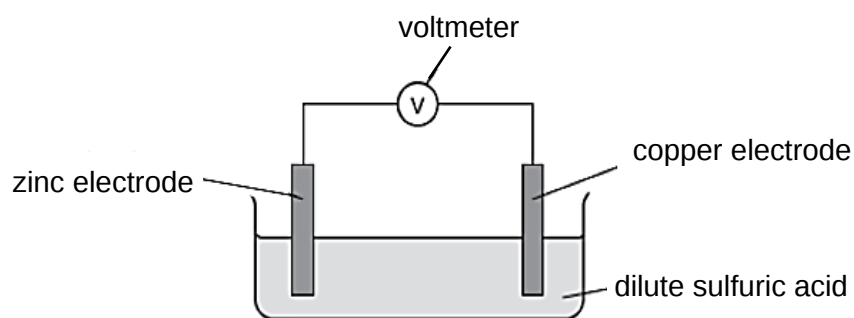

Fig. 12.2
- (b) A student used the following electrochemical cell as shown in Fig. 12.2.